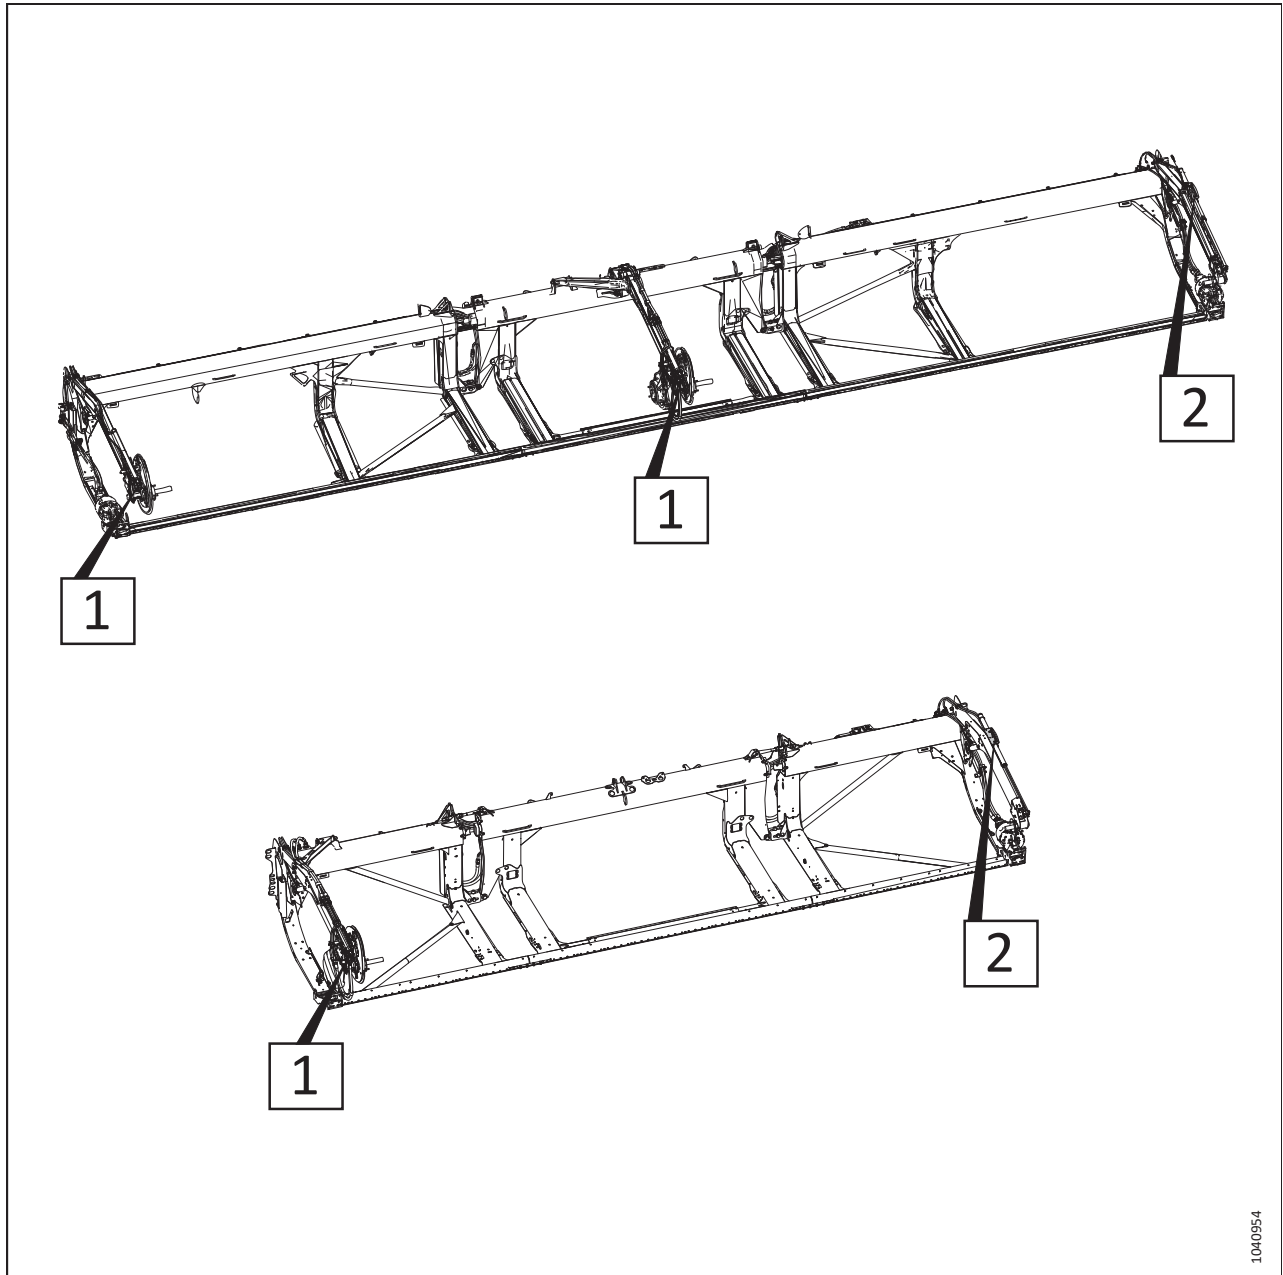

Figure 3.157: Adjustable Fore-Aft Cylinders – Procedure Reference Numbers
5. Refer to Figure 3.157, *page 143* to determine the fore-aft cylinder adjustment procedures for your header type. The number on the illustration refers to one of the following procedures: